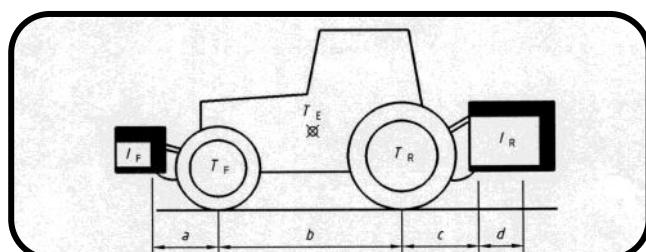

Fig. 12
**Key** (please refer to Fig. 12):
- Ir (kg) = total weight of the carried machine + carried product ② ③
- Tf (kg) = load on the front axle of the unloaded tractor ①
- Tr (kg) = load on the rear axle of the unloaded tractor ①
- Te (kg) = tare weight of the tractor ①
- a (m) = distance in metres between the centre of gravity of the front ballast and the centre of the front axle ① ③
- b (m) = tractor's wheel base in metres ① ③
- c (m) = distance in metres between the centre of the rear axle and the centre of the lower joints ① ③
- d (m) = distance in metres between the centre of the lower joints and the centre of gravity of the machine ② ③
- ① Read the tractor's instruction manual